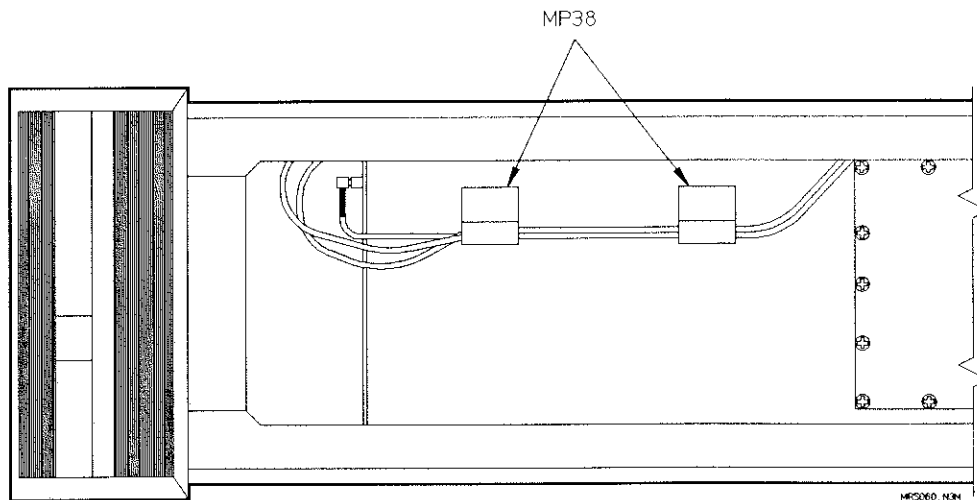

Figure 1-8. Right Side View of Option 060 Installation
- c. Attach the remaining two cable clamps toward the top side of the card cage spacing them two to three inches apart. (See Figure 1-8.)